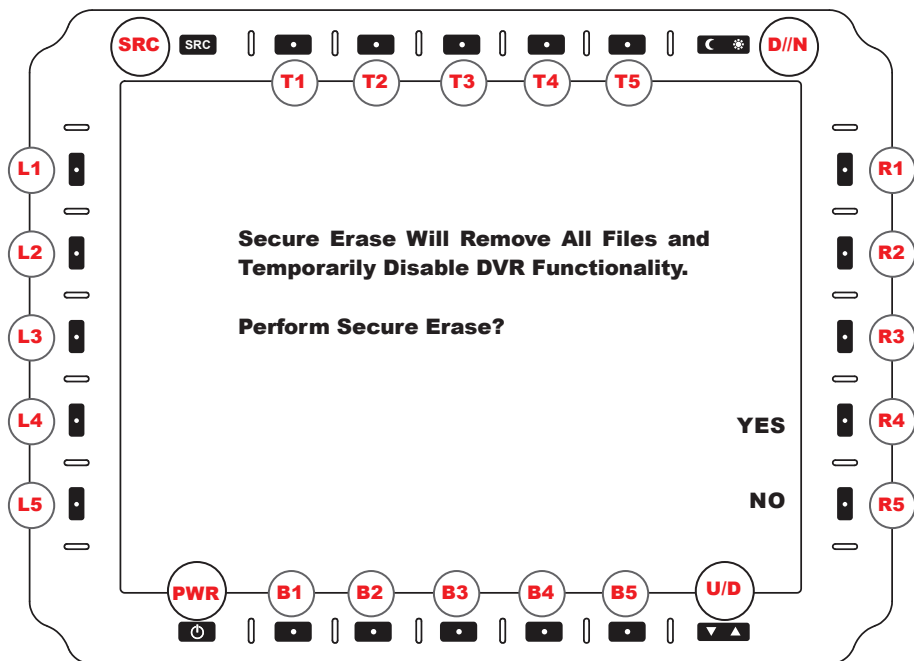

FIGURE 17. SECURE ERASE MENU
YES (R4). Confirms Delete Action: Delete Selected, Delete All, or Secure Erase. For more details on the Secure Erase process, see Secure Erase Menu (Figure 17).
Suggested use of the submenu Secure Erase (SE) function (Figure 17) is any event requiring User to leave no Video or Snapshot data behind. Secure Erase reformats the Media drive.